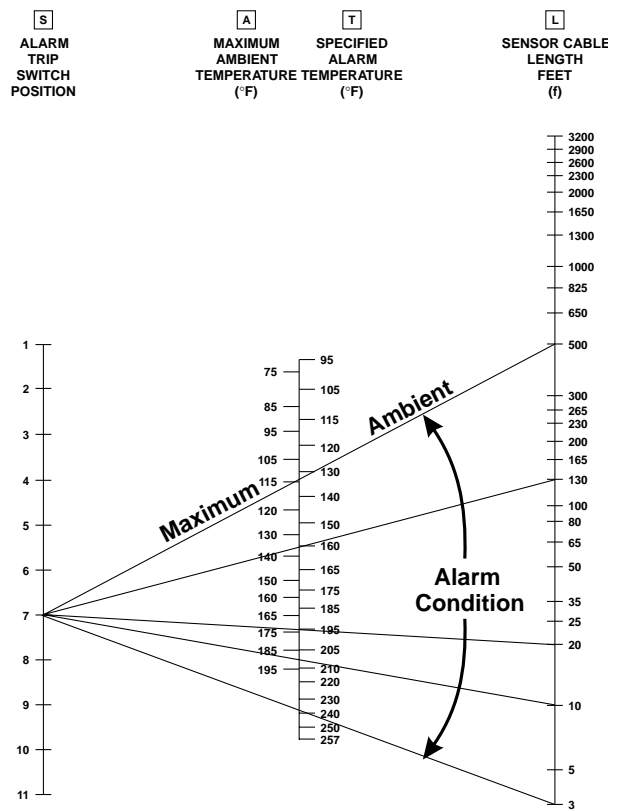

Figure 3. Example for Type "T" Cable
2. In Figure 3, a straight line is drawn from the alarm trip switch position 7 on Scale S to the 500 ft. (152 m) sensor cable length on Scale A.
1. The AlarmLine linear heat detector in this example will operate in an ambient temperature up to about 115°F (46°C) and not generate a false alarm. See Scale A in Figure 3.
2. The AlarmLine linear heat detector in this example will generate an alarm if the temperature of the entire sensor length averages about 132°F (56°C) as shown where the line crosses Scale T in Figure 3. Higher temperatures would be needed to initiate an alarm over shorter sections of entire sensor length.
3. Alarm temperatures for shorter sections of the AlarmLine Linear Heat Detector in this example with 500 ft. (152 m) of sensor and the alarm trip switch set to position 7 may also be calculated. In Figure 3, draw straight lines from position 7 on Scale S to any desired length less than 500 ft. (152 m) on Scale L. According to the above example: